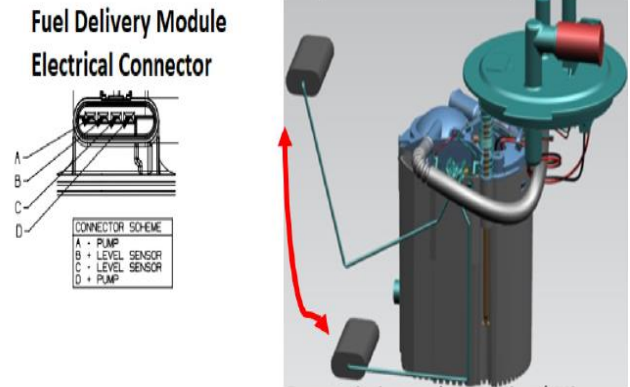

Figure 2 – Fuel Level Sensor Testing
28. Using a multi meter, perform an electrical resistance test of the fuel delivery module in 2 level sensor positions “Empty Stop” (510hms) and “Full Stop” (992 Ohms) fuel delivery module electrical connector pins “B” and “C” (Figure 2).